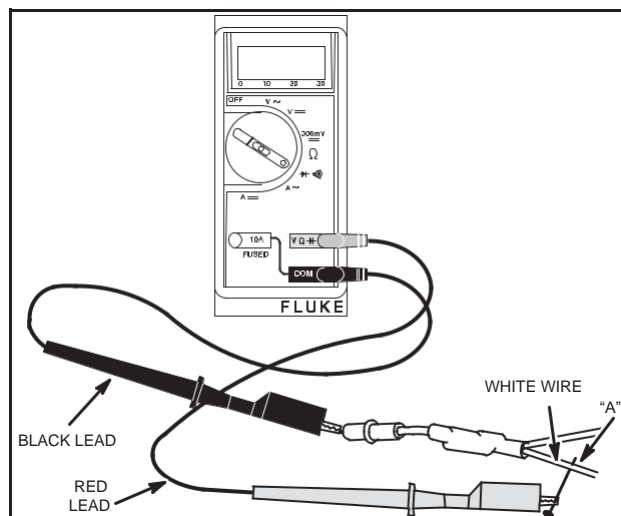

Fig. 18 – Diode Testing – Lighting Circuit
4. Attach RED test lead clip to point "A," (white wire) Fig. 18. (It may be necessary to pierce wire with a pin as shown.)